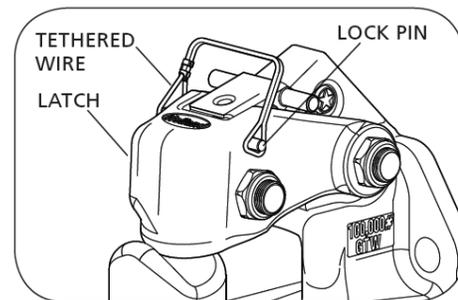

Figure 6.8
- ✓ Unlock and remove the tethered lock pin, if applicable (Figure 6.8).
- ✓ Insert the tethered lock pin through the latch and lock holes, and close the tethered wire lock pin, if applicable (Figure 6.8).